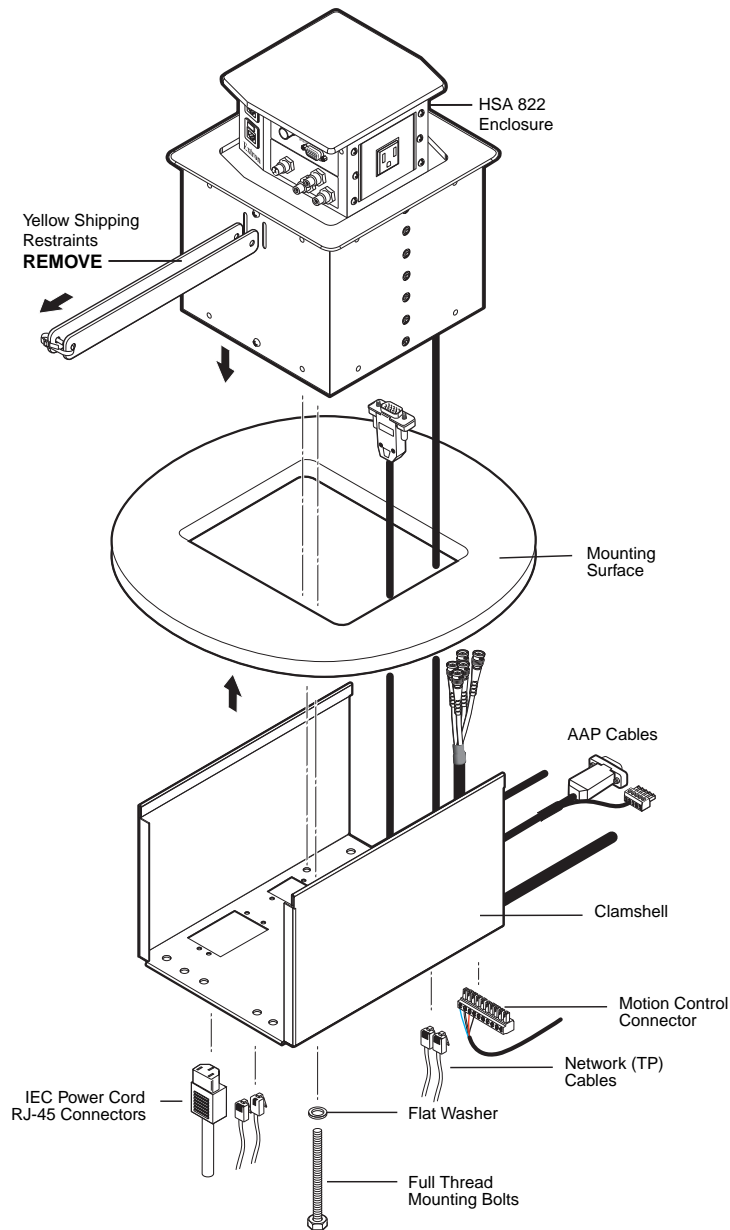

Figure 3-5 — Removing the HSA 822M from the table
- On the underside of the table, remove the two bolts that secure the clamshell to the surface mount enclosure and remove the clamshell (figure 3-5).